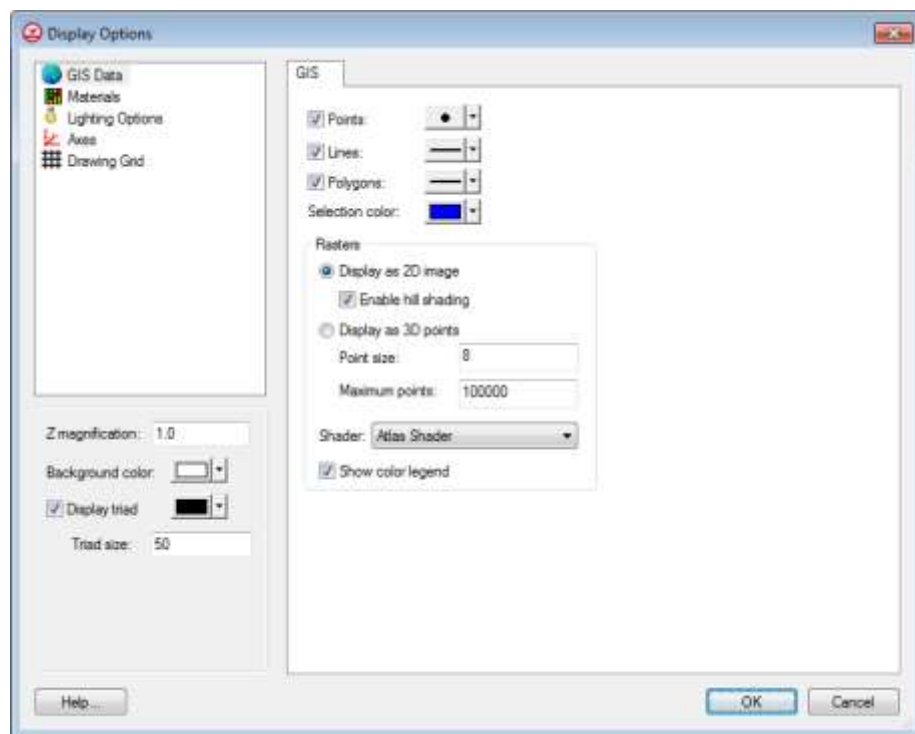

Figure 15 Display Options dialog
5. Click **Display Options**  to open the *Display Options* dialog (Figure 15).